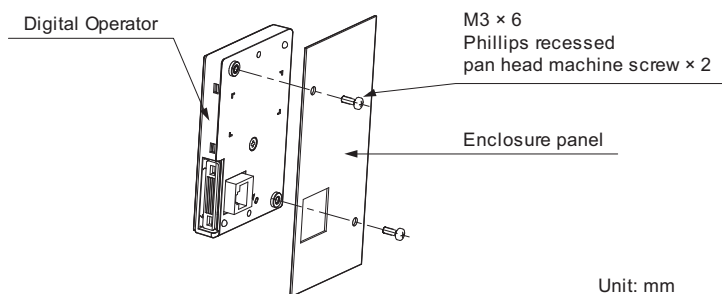

Figure 2.11 External/Face-Mount Installation
2. Position the digital operator so the display faces outwards, and mount it to the enclosure panel as shown in Figure 2.11.